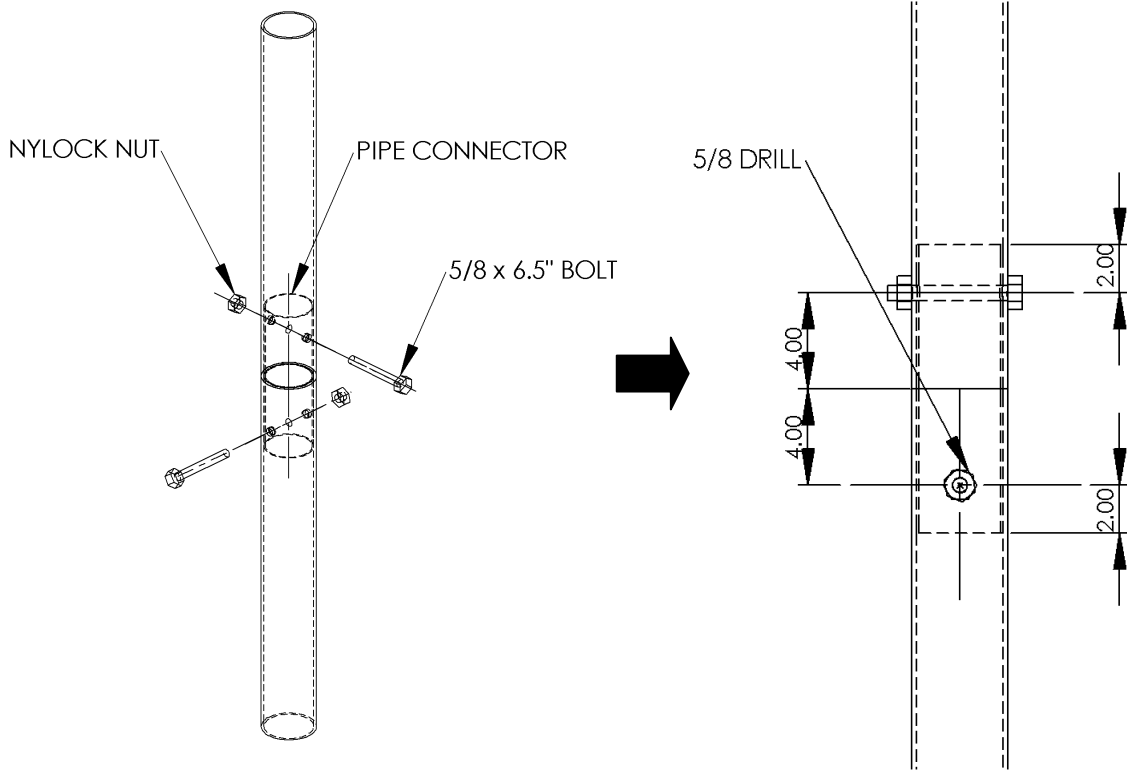

Figure 1.1
- Connect second lift pole section to the bottom lift pole section as shown in Figure 1.1 Once the pipe inserts are secured in the pipe ends you are ready to drill the holes to hold the pipe insert bolts in place. Figure 1.1 describes the distance and the type of bolt used.